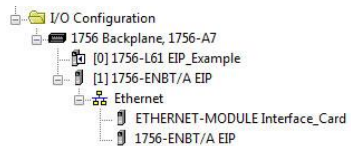

Figure 37: I/O Configuration Tree
- 6) After adding the I/O Module to the configuration, the full I/O Configuration tree should appear similar to Figure 37.